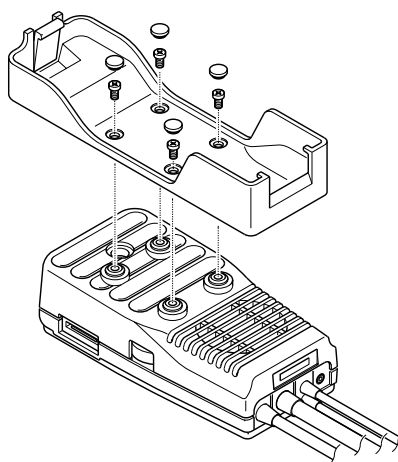

Figure 24: holster removal
5. Figure 24 Reinstall the holster onto the handset unit. Use 4 screws.